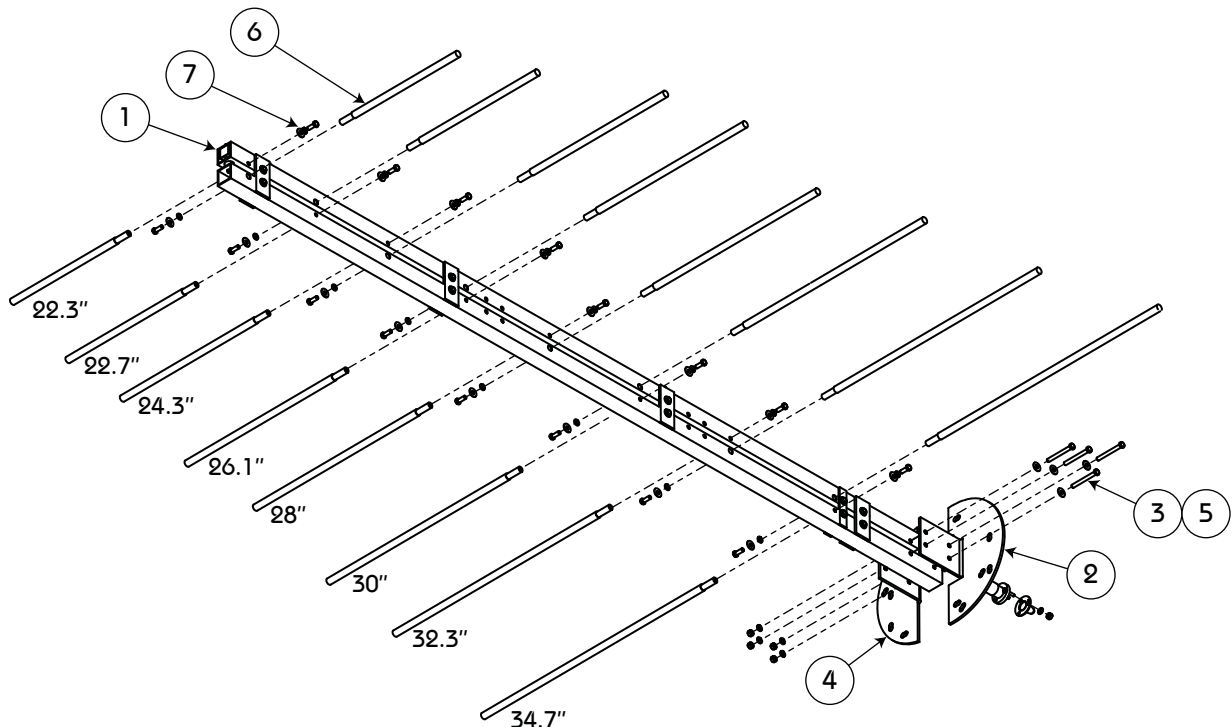

Figure 1. Attach the antenna arms and mounting plates [steps c(1) - (2)]
- Using the 5/16" hardware (7), attach the antenna arms (6) to the sides of the booms (1) as shown in Figure 1. Note that the arm lengths are different lengths - be sure to locate them with the longest near the base of the boom assembly as shown.